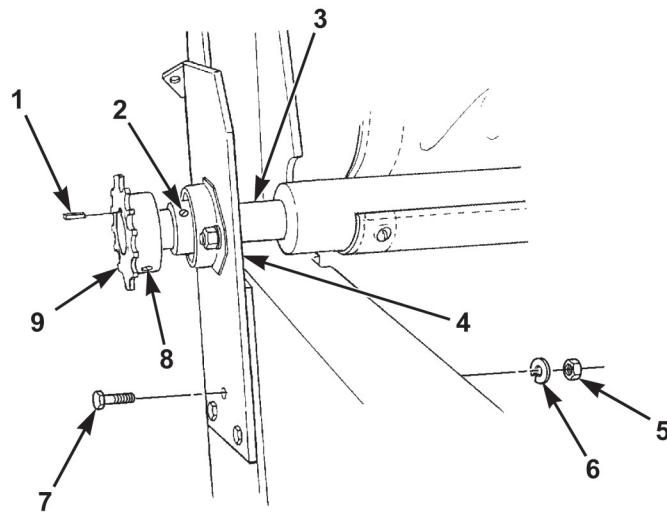

Figure 2. Roll-Up Bar Removal.
5. Loosen set screw (Figure 2, Item 8) and remove sprocket (Figure 2, Item 9) with sprocket alignment key (Figure 2, Item 1) from roll-up bar (Figure 2, Item 3).
6. Remove three nuts (Figure 2, Item 5), lockwashers (Figure 2, Item 6), and screws (Figure 2, Item 7) from driver's side mounting bracket (Figure 2, Item 4) and dump body. Discard lockwashers.
7. Loosen set screw (Figure 2, Item 2) at each end of roll-up bar (Figure 2, Item 3). Remove driver's side mounting bracket (Figure 2, Item 4) and roll-up bar. Slide bracket from roll-up bar.